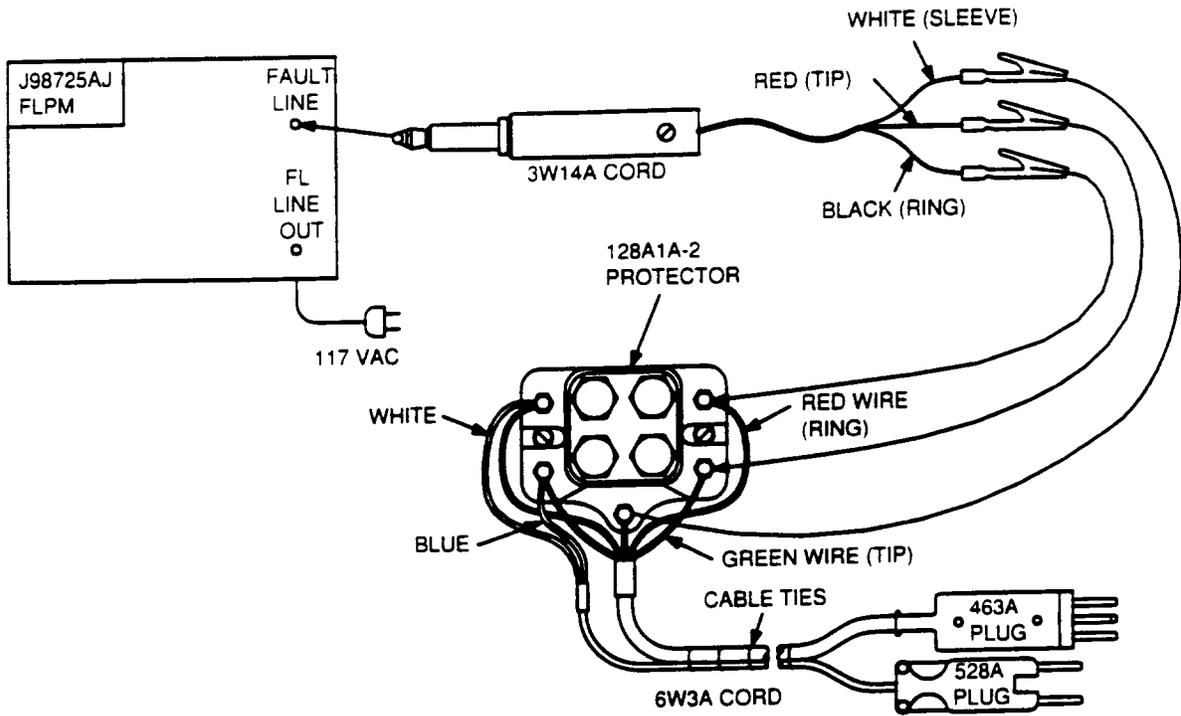

Figure 2—Fault Line Powering Module Connections to 6W3A and 3W14A Test Cords
7. Make connection from J98725AJ fault line powering module to 6W3A and 3W14A test cords. (See FIG. 2.)